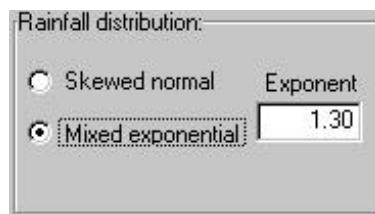

Figure 13.5
- c. Rainfall distribution. In this section, the user selects the distribution used to generate precipitation data. The user may choose between two options, **Skewed normal** or **Mixed exponential**, using the respective radio button. When **Mixed exponential** is selected, a text box is enabled for the user to specify the exponent (Figure 13.5)